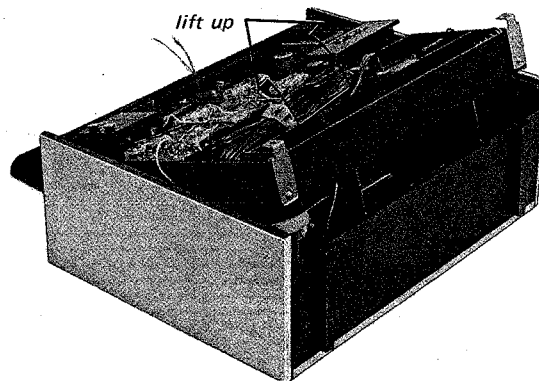

Fig. 2-4 Chassis removal, step 7
7. Lift up the chassis as shown in Fig. 2-4.